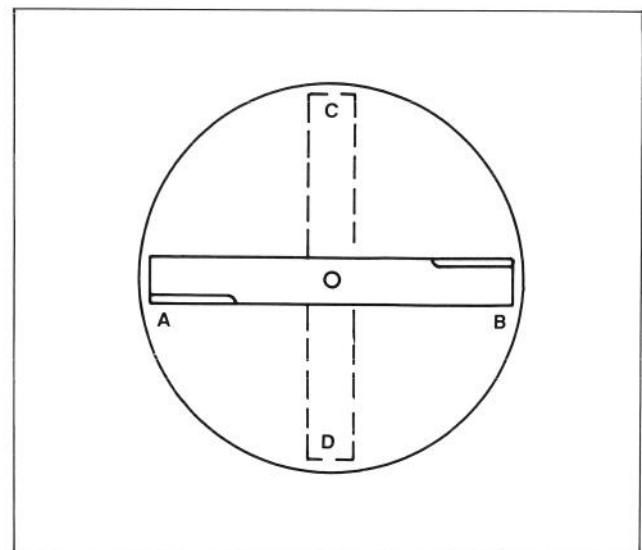
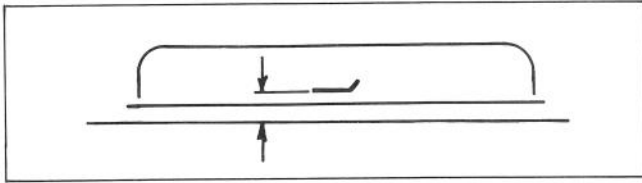

Figure 12
Figure 13
3. Position blade in the "A" position (Fig. 12) and measure from level surface to the bottom of the tip end of blade (Fig. 13).
4. Note measurement attained at "A", rotate blade to "B" position (Fig. 12), measure distance of blade to level surface and note dimensions (Fig. 13). Difference between dimension "A" and "B" should not exceed $1/8$ ". If dimension exceeds $1/8$ ", proceed to Steps 6 and add shims between spindle housing and bottom of cutting unit.